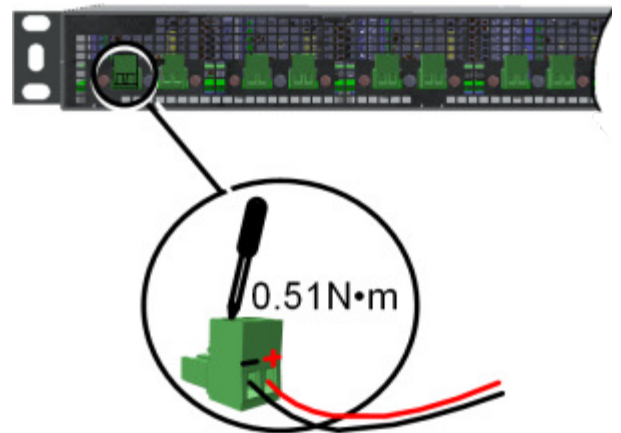

Figure 5-7. DC Wiring Connections
1. Identify the positive and negative terminals on the feed positions as indicated on the PSU6. The wiring sequence is positive to positive and negative to negative as shown in Figure 5-7.